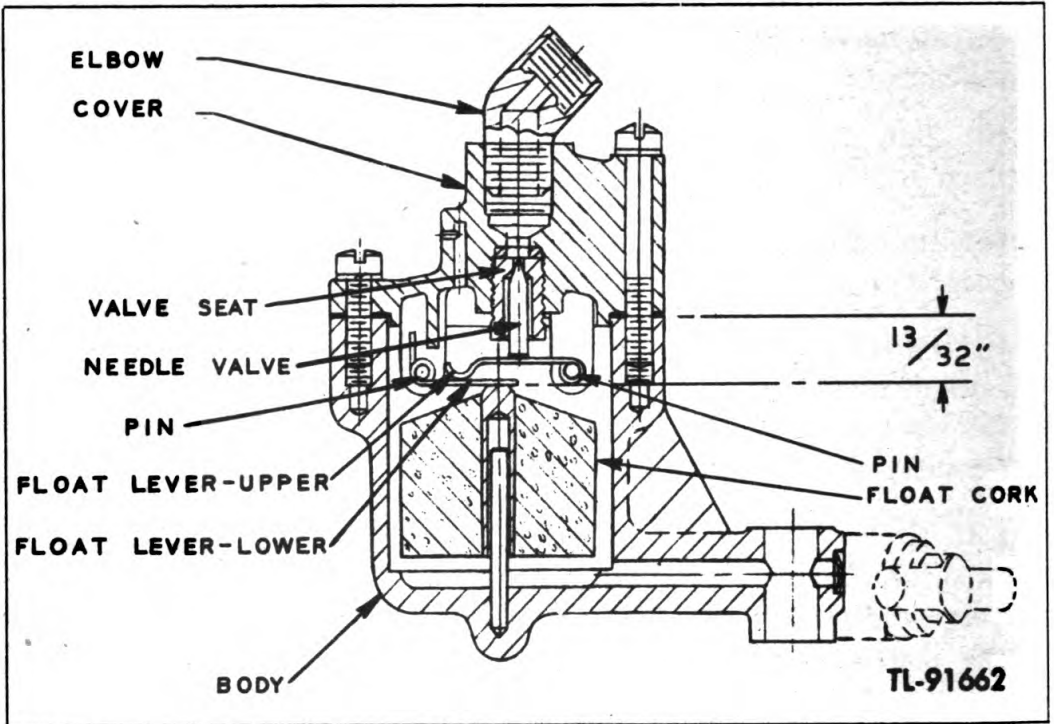
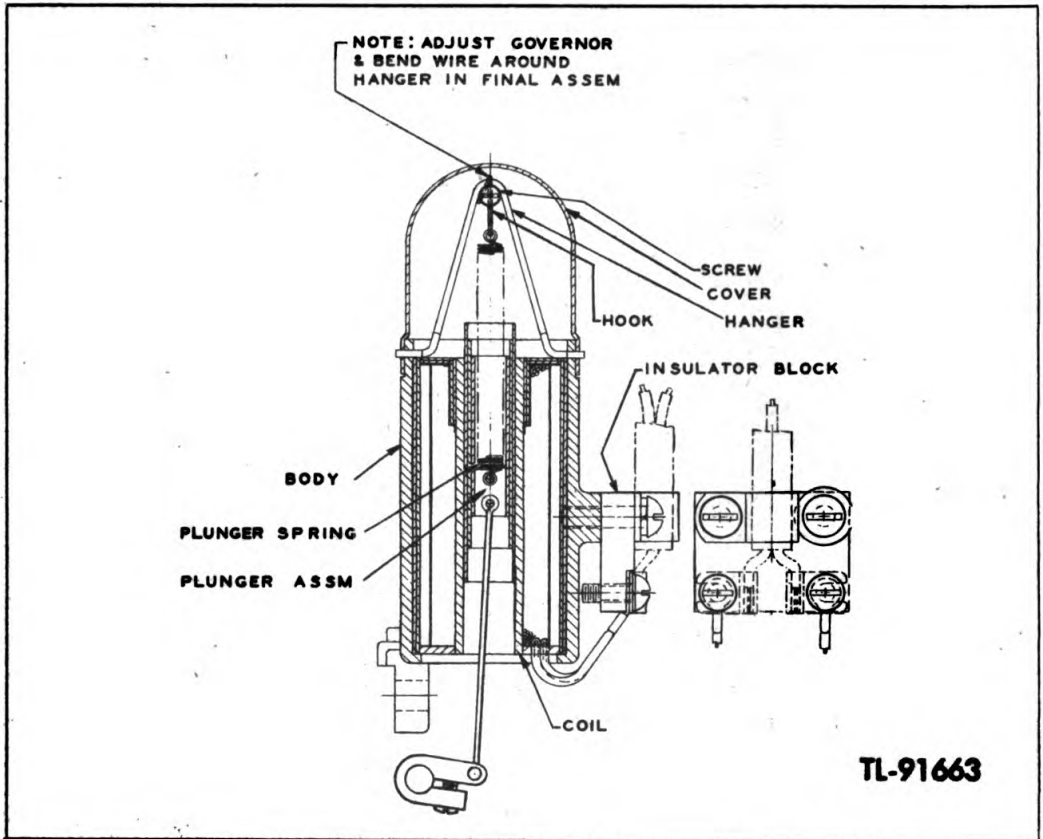

Figure 14. Carburetor float assembly
Figure 15. *Electric governor assembly*
(5) If the engine floods easily when starting and is not over-choked, or if it is not possible to adjust the carburetor for satisfactory engine performance, the difficulty may be caused by a faulty float needle valve, needle valve seat, or float cork. If any of these mentioned parts are not functioning properly, the level of the fuel in the float bowl will be too high, permitting the fuel to flow into the air bleed chamber. Figure 14 shows the position of parts constituting the float assembly. To determine if the needle valve and seat are seating properly and the float levers are not bent too high or too low, the distance from the lower lever to the face of the float bowl where the gasket is located should measure $13/32$ inch, as shown in figure 14.
(6) If a new float is installed, make certain it moves up and down freely on the float bowl pin.
(7) The needle valve seat is replaceable by unscrewing it from the float bowl cover.
k. Electric governor. (1) No adjustments should be necessary to the governor (fig. 15) unless the plunger return spring is replaced, as it is correctly set for the requirements of the unit at the factory.